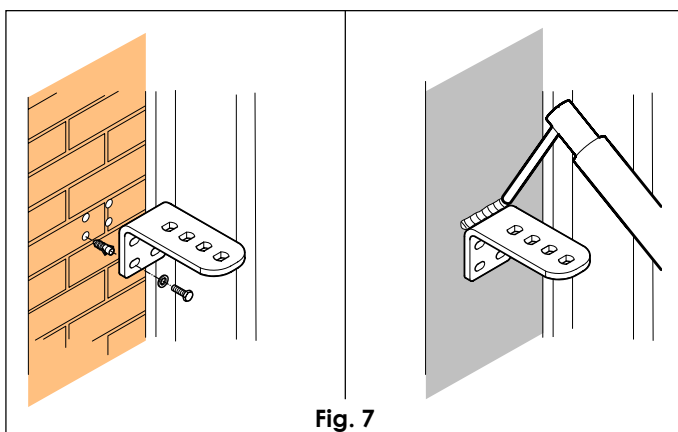

Fig. 7
- Secure the rear fitting to the pillar by welding or using suitable expansion plugs (Fig. 7) and ensuring it is perfectly horizontal.